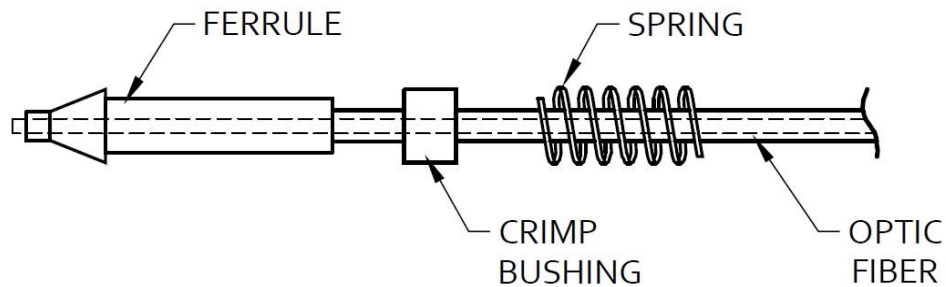

Figure 6.5
5. Place spacer or fold Bus Wire around ferrule to force a 0.026" gap . Pull brass crimp bushing into place next to spacer and crimp. While crimping, push on the end of the fiber to prevent it from backing out during crimping. See Figures 6.5 and 6.6.